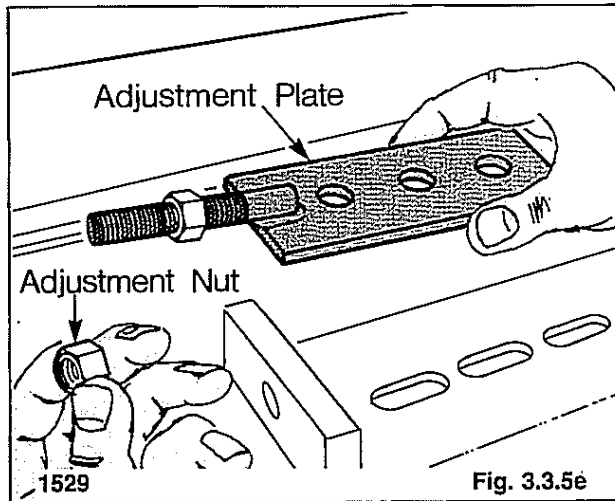

Fig. 3.3.5e
5. Install the adjustment plate and the front and rear adjustment nuts (fig. 3.3.5e).